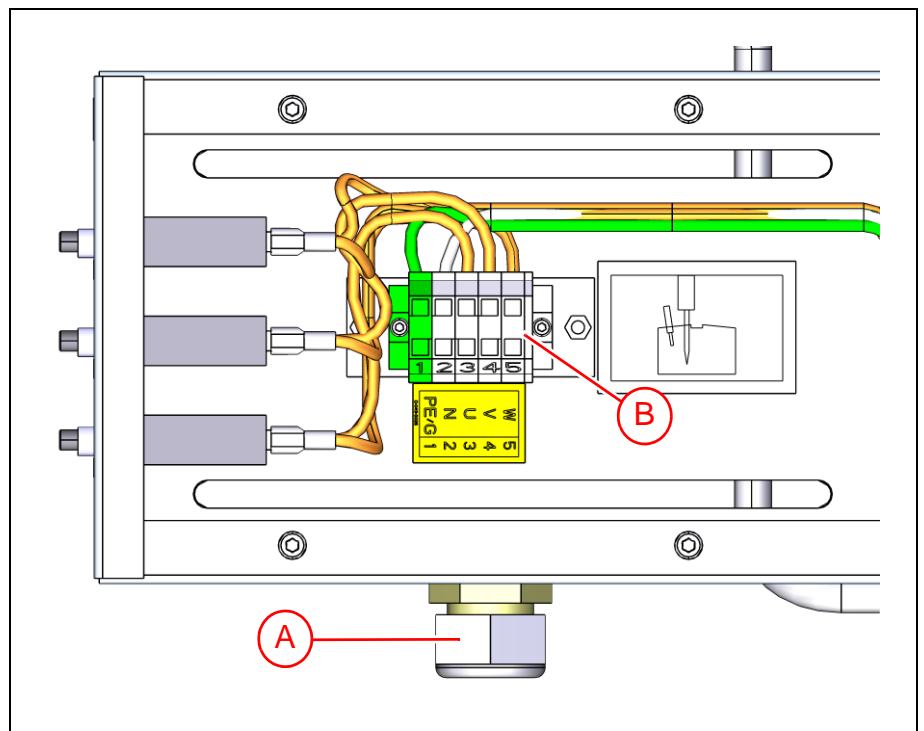

Figure 2-26. Power terminal block.
2. Continue to route the main electrical cable through the cable grommet ('A' in Figure 2-26) in lower part of the power inlet unit.
4. Strip the cables and connect the electrical leads to the terminal block ('B'). Refer to Figure 2-26 and the table below to determine the correct position of the leads